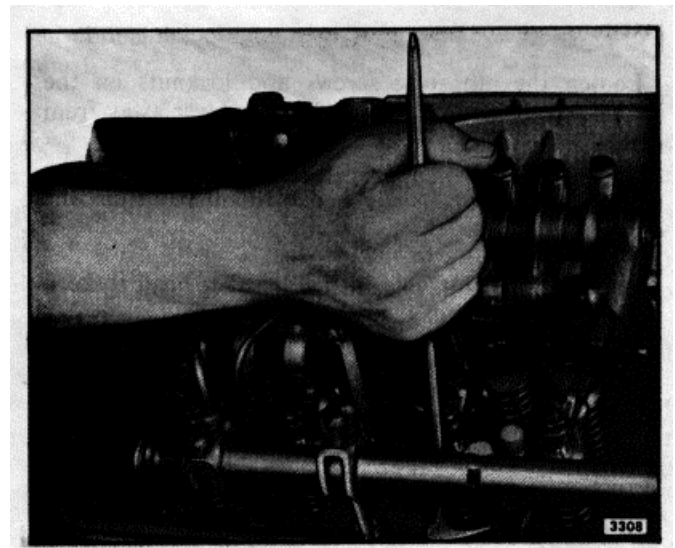

Fig. 2. - Removing Injector from Cylinder Head
8. Free the injector from its seat and lift it from the cylinder head (Fig. 2).